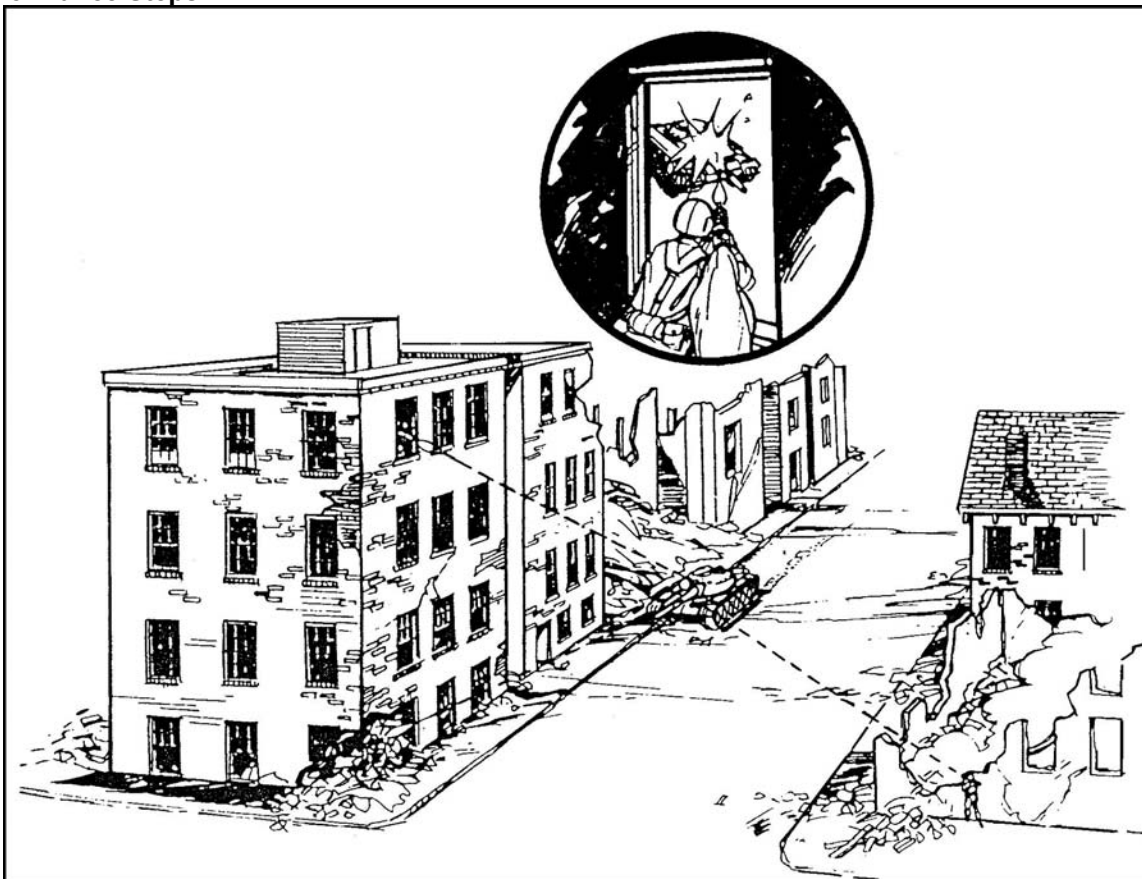

Figure 3. Antitank weapon positions on upper stories.
- b. TOW, Dragon, or AT4. Position the antitank weapons, whether within the platoon or attached, on upper stories for longer range, coverage, and to permit firing at the deck of tanks (Figure 3).